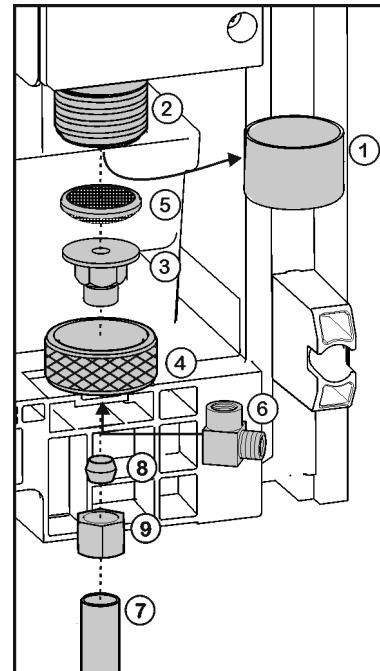

Fig. 18
- Remove the cap Fig. 18 (1) from the solenoid valve Fig. 18 (2).
- Insert the coupler Fig. 18 (3) in the union nut Fig. 18 (4).
- Insert the water filter Fig. 18 (5) with the recess pointing down towards the coupler Fig. 18 (3).
- Lock the union nut Fig. 18 (4) onto the solenoid valve Fig. 18 (2) and tighten.
- To turn the water connection 90°, tighten the elbow connector Fig. 18 (6) if necessary.
- Connect the water supply Fig. 18 (7) (e.g. copper) with the aid of the clamp ring Fig. 18 (8) and nut Fig. 18 (9) to the coupler Fig. 18 (3) or elbow connector Fig. 18 (6).